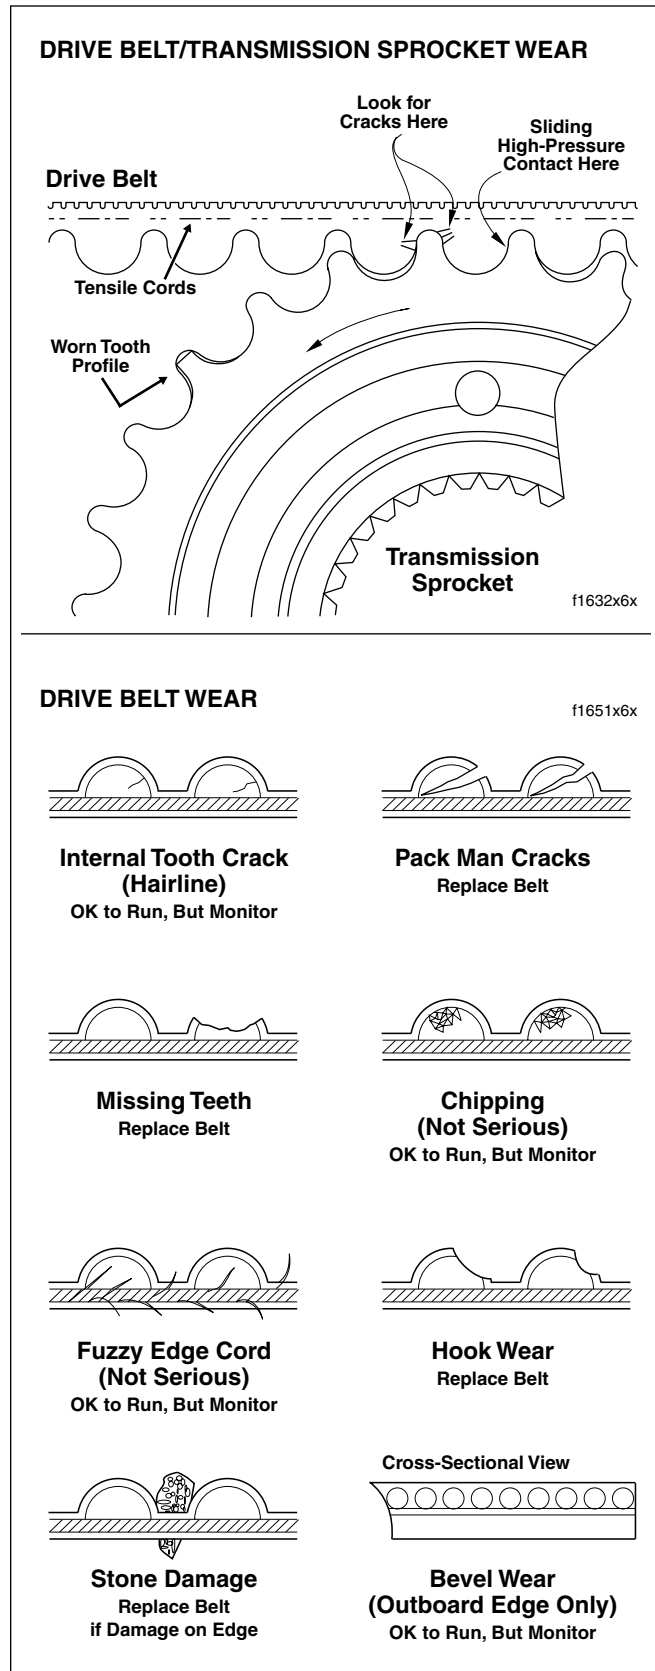

Figure 6-7. Drive Belt/Transmission Sprocket Wear
4. On the inside of the belt, inspect the roots of the belt teeth to see if the tensile cords are exposed. See upper frame of Figure 6-7. The tensile cords are covered by a layer of nylon facing and another layer of polyethylene. Once these layers are worn through, the tensile cords become visible. Visible tensile cords are an indication that the transmission sprocket tooth tip diameter is severely worn. Furthermore, belt failure is imminent, since the tooth tips will continue to scratch away at the tensile cords until the belt is completely worn through.
5. Look for signs of cracking at the base of the belt teeth where contact may be made with the "corners" of worn transmission sprocket teeth. See upper frame of Figure 6-7. Replace the belt if cracking is evident.
6. For common types of belt wear and damage, see lower frame of Figure 6-7.
4. Look for “sharp” corners at the top of each sprocket tooth, particularly where the flank joins the top radius. A smooth transition should exist between the flank and radius. While worn teeth will appear to have an edge across the face width of the tooth, heavily worn teeth will have a flat across the top. If the flat is 1/8 inch (3 mm) wide or more, replace the transmission sprocket and drive belt. See upper frame of Figure 6-7.